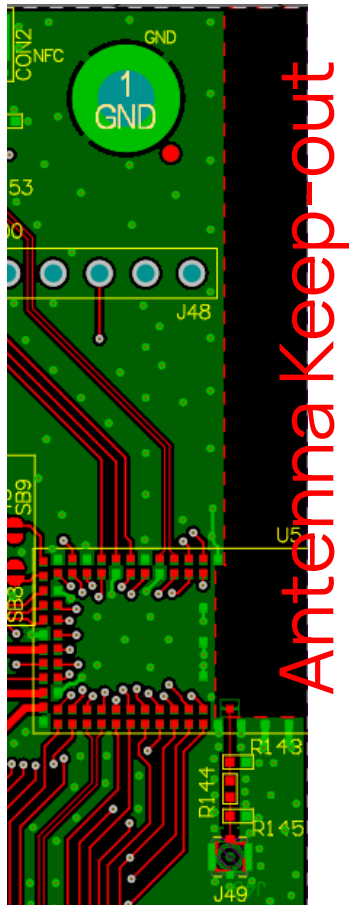

Figure 13: PCB trace Antenna keep-out area (shown in red), corner of the BL653 development board for the 453-00039 module.
- The BL653 development board has the 453-00039 module on the edge of the board (not in the corner). The antenna keep-out area is defined by the BL653 development board which was used for module development and antenna performance evaluation is shown in **Figure 13**, where the antenna keep-out area is ~5 mm wide, ~39.95 mm long; with PCB dielectric (no copper) height ~1 mm sitting under the 453-00039 PCB trace antenna.
- Host PCB land pattern and antenna keep-out for the BL653 applies when the 453-00039 is placed in the edge of the host PCB preferably in the edge center. **Figure 13** shows an example.